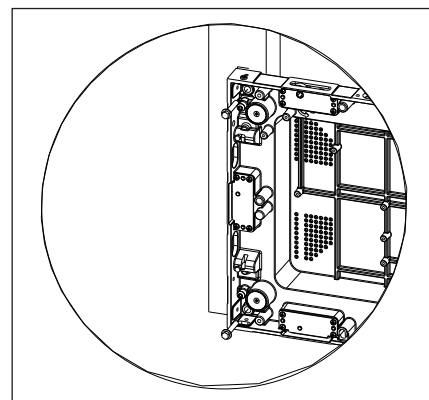

Figure 4: Secure Panel to Tubes
5. Secure the panel to the tubes through all four corner mounting locations. Refer to **Figure 4**.